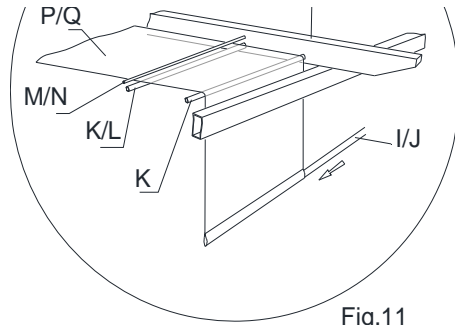

Fig.11
Then insert the Pull Tubes(I/J) into the sleeves of the Canopy (P/Q). (See Fig. 11) **Note: Insert the Pull Tubes (I/J) from the end of sleeve of the Canopy (P) which is with velcro strap through the Canopy (Q) into sleeve of the Canopy (P).**